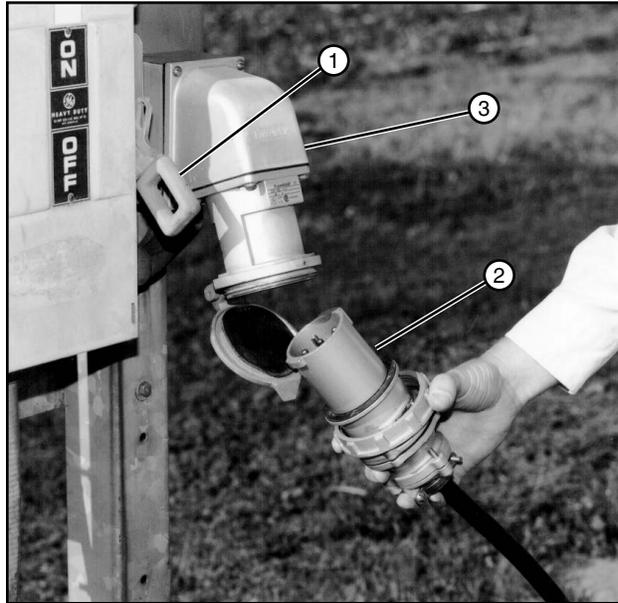

Figure 56-1 1. Service Disconnect - OFF
18. With the service disconnect in the OFF position, plug the power plug into the receptacle. See Figure 56-1.